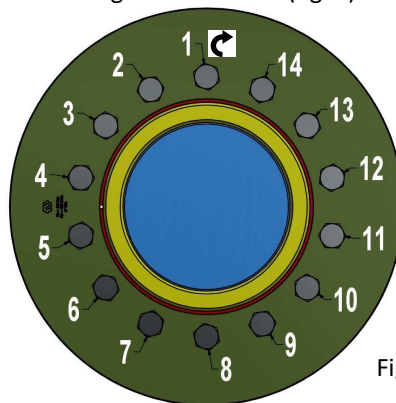

Fig. 4. Example of tightening pattern.
4. Use a torque wrench set approx. 5% higher than specified tightening torque (Ma), or reduced within admissible value. **Progressively tighten the screws in either a clockwise or counterclockwise sequence, using approx. ¼ turns for several passes** until ¼ turns can no longer be achieved (fig. 4).